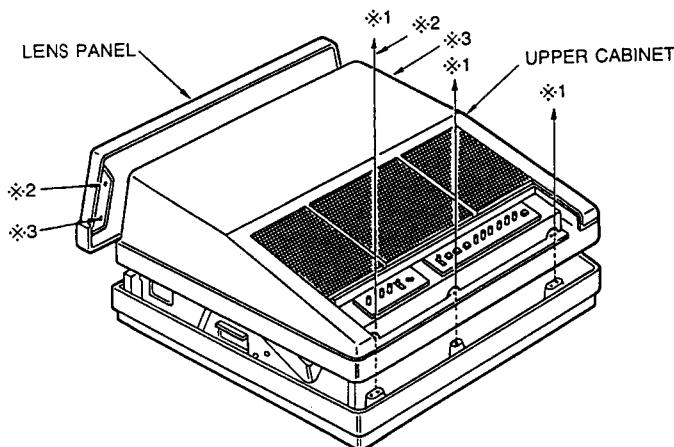

Fig. 39
- (1) Remove the three screws designated "※ 1" on Fig. 39 and remove the UPPER CABINET.
(8) Refit the LENS PANEL and tighten its four screws “*2” and “*3” [Fig. 39]
(9) After ensuring that a proper picture is displayed, replace the UPPER CABINET and tighten the three screws “*1” [Fig. 39]